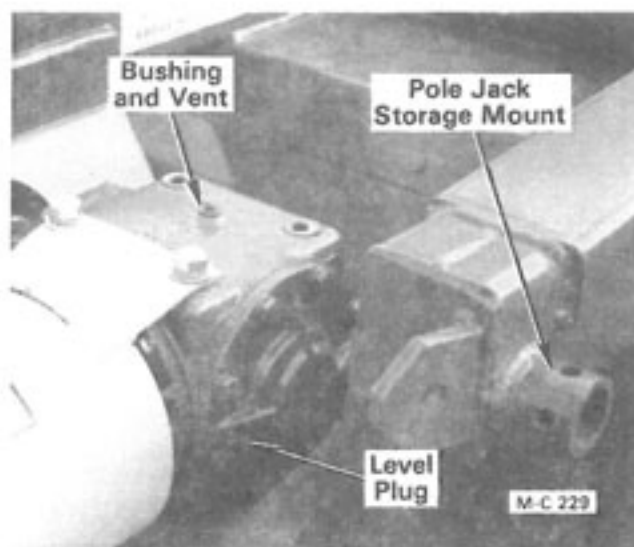

Figure 19
1. Periodically check the oil level in the gear box. Remove the oil level plug on the left side of the gear box, see Figure 19. The oil level should be even with the bottom of the level plug hole. If not, remove the bushing and vent on top of the gear box and add SAE 90 gear oil (See note).